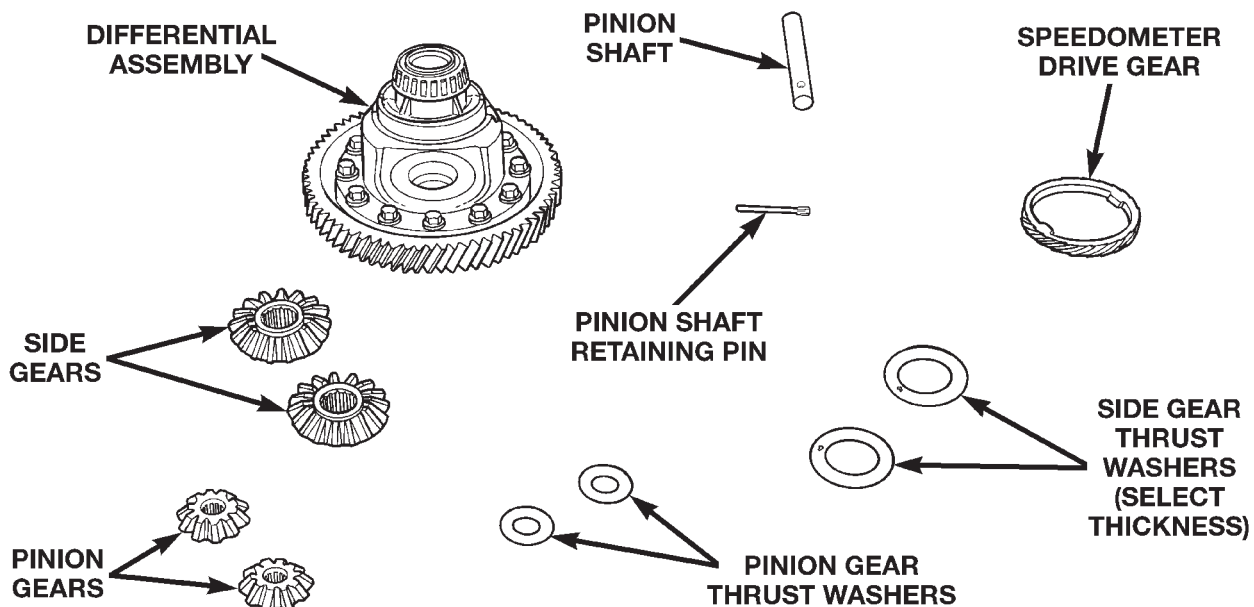

Fig. 121 Differential Gears
(4) Remove differential gears (Fig. 121).